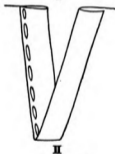

FIGURE 134
*Cut-Out Continuous Placket* (Figure 134). — When heavy fabric is used, it is advisable to use the cut-out placket in order to avoid too many thicknesses of material. Follow directions for the continuous placket, but, after basting the creased edge to the line of stitching, press and cut the fabric on the right-hand side on the back of the placket (I). Cut  $\frac{1}{4}$  inch from the middle crease and  $\frac{1}{2}$  inch from the bottom crease. Remove bastings holding the cut piece, and fasten the cut end of the placket to the garment. Turn the cut facing flat to the garment